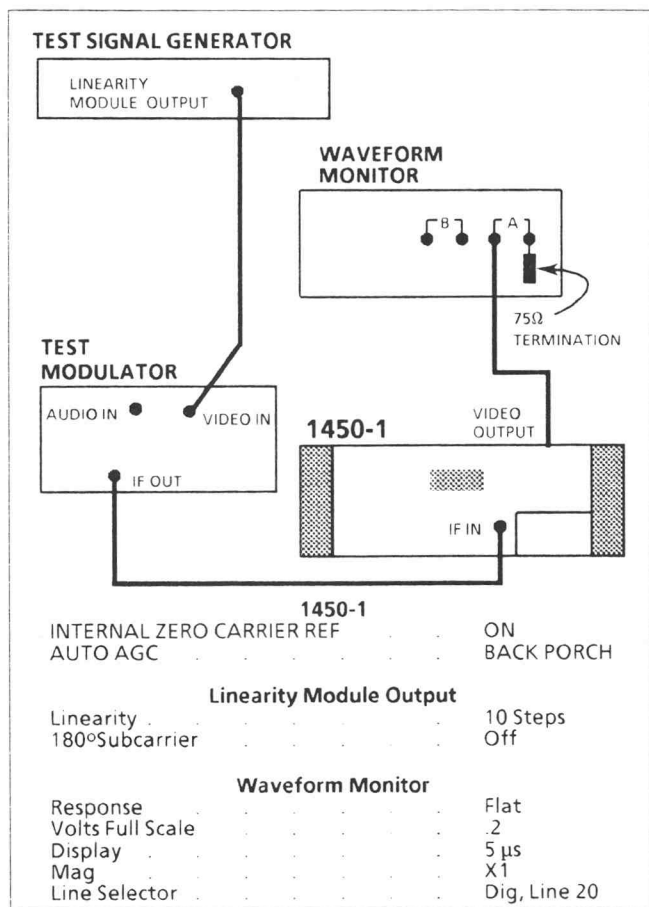

Fig. 4-55. Setup for adjusting switch current balance.
- a. Connect and set the test equipment as shown in Fig. 4-55.
- a. Connect and set the test equipment as shown in Fig. 4-55 with the following exceptions:
- (1) Set the 1450-1 AGC to MAN and set the GAIN control so the Level LEDs are off.